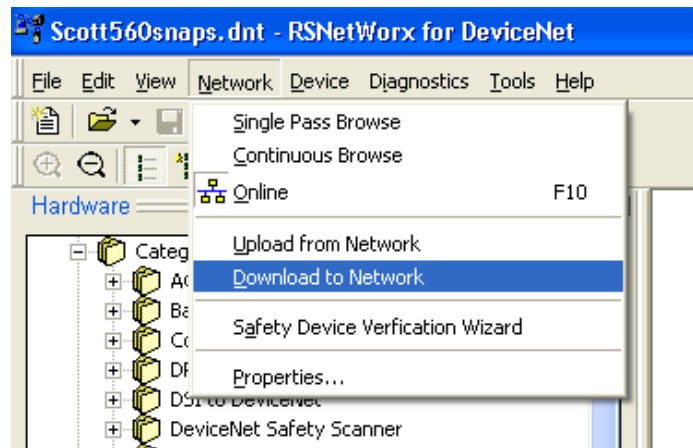

Figure 3-21: Network Download Confirmation Prompt
- Download the configuration to the scanner card, in order to commission the network. In the prompt that appears (Figure 3-21), click **Yes** to continue. Note that some scanner cards may require power down for changes to take effect.